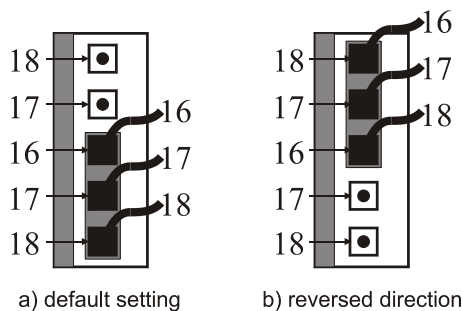

Fig. 9. Replugging the feedback potentiometer's cables
3. Replug the feedback potentiometer's cables as shown in Fig. 9.